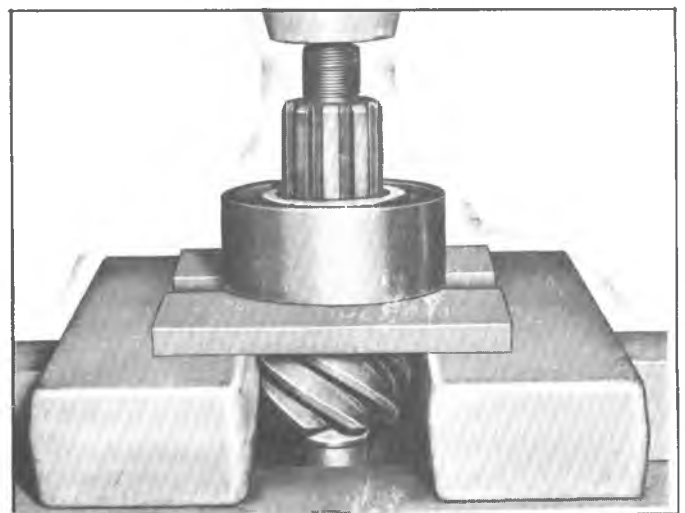

Fig. 3G—Drive Pinion Front Bearing Removal
6. Position drive pinion in an arbor press so that the bearing is supported by two pieces of flat steel stock as shown in Figure 3G. Place flat stock parallel to each other and against pinion so as to pick up a large area of bearing outer race. Press pinion from bearing making sure pinion is supported to prevent damage when removed from bearing.